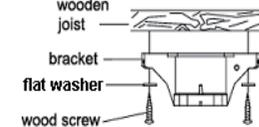

Fig. 1
5. **MOUNTING BRACKET INSTALLATION:** Secure the mounting bracket to the wooden joist by two #10x3 wood screws and that washers provided with fan (See Fig. 1)